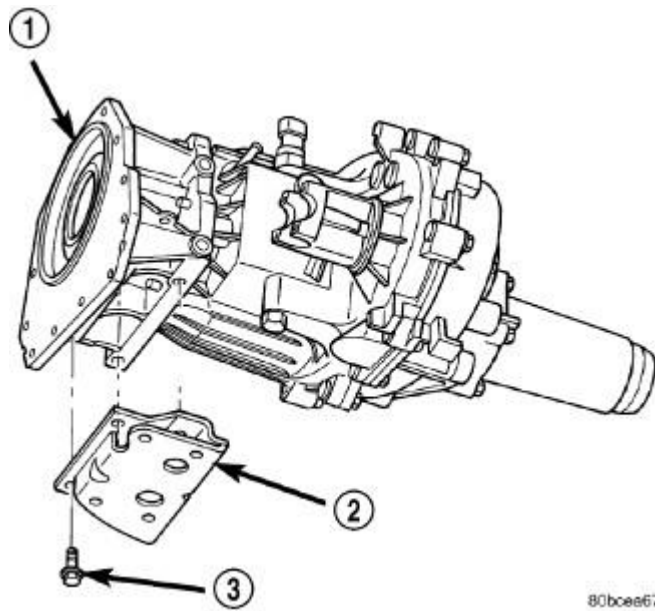

Fig. 175: Engine Rear Mount-4X4 Automatic Transmission
- Remove the four bolts and washers retaining the mount to the transmission (4x4 automatic transmission only). See **Fig. 175**.
- Raise the transmission and remove the bolts retaining the mount to the crossmember (4x4 automatic transmission only). See **Fig. 175**.